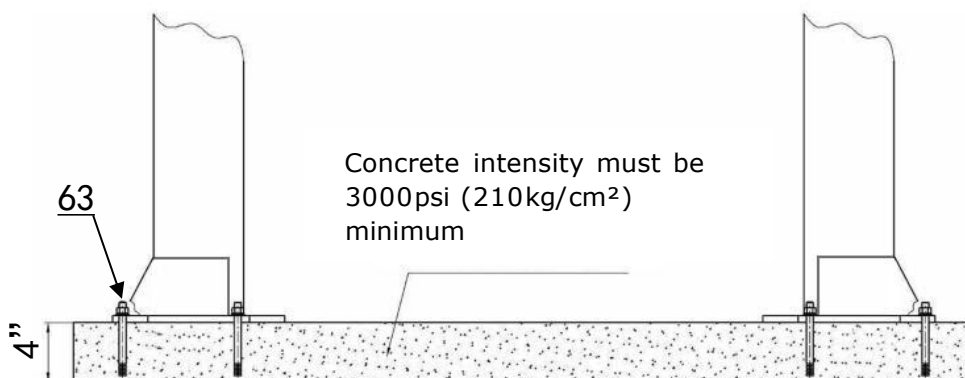

Fig. 6
D. SPECIFICATIONS OF CONCRETE (See Fig. 6).